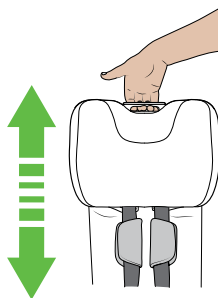

Figure 6
Step 1. Re-adjust headrest and harness height until correct height is reached for your child (Figure 6).